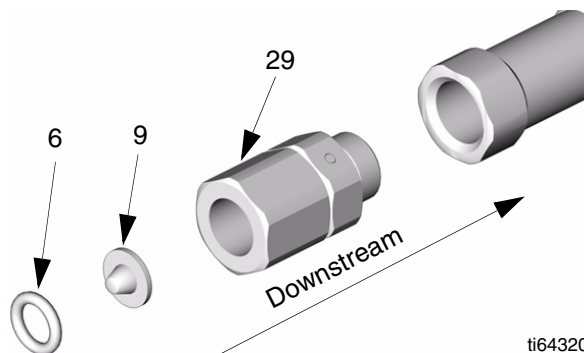

FIG. 22
2. Unscrew the hose from the swivel (29). See FIG. 22.
3. Remove the o-ring (6), and remove the filter (9) from its seat in the swivel (29) with an o-ring pick.
5. Push the new or cleaned filter (9) into the swivel (29), and make sure it's properly seated. Replace the o-ring (6).
Be sure to position the new filter (9) so the concave side of the screen points downstream. See FIG. 22.
6. Screw the hose back into the swivel (29).